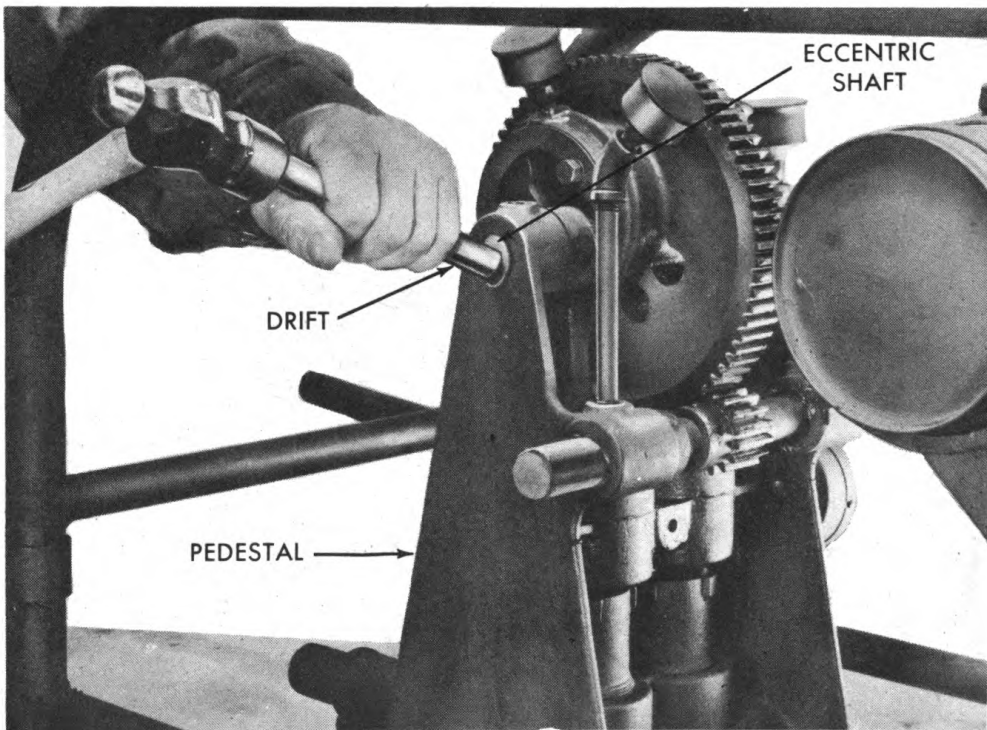

Figure 34—Removing Eccentric Shaft
(1) Remove three gear guard retaining cap screws and lock washers; then lift off gear guard.
(2) Unscrew and remove lock nuts and set screws; then using a brass drift and hammer, drive out and remove eccentric shaft. (See figure 34.)
(3) Remove eccentric, eccentric straps, cross heads, and plungers as an assembly. This will require a strong upward pull. (See figure 34.)
(4) Lay assembly on a bench; then using a monkey wrench, unscrew and remove the plunger nuts. (See figure 34.)
(5) Remove worn plunger cups and replace with new. Position new cups in a manner that will bring the convex surface of the cups in contact with the concave ends of the cross heads.
(6) Install plunger nuts.
(2) Unscrew and remove lock nuts and set screws, then using a brass drift and hammer, drive out and remove eccentric shaft. (See figure 34.)